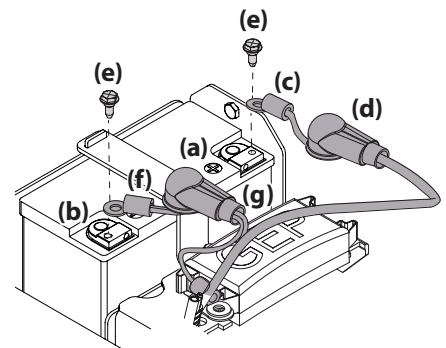

Figure 21
NOTE: The positive battery terminal is marked POS. (+) (a). The negative battery terminal is marked NEG. (-) (b). See Figure 21.
2. Slide the red boot (d) from the positive battery terminal (a) and attach the red cable (c), with the vertical mount bolt (e). See Figure 21.
3. Position the red boot (d) over the positive battery terminal (a) to insulate it and help protect it from corrosion. See Figure 21.
4. Slide the black boot (g) from the negative battery terminal (b) and attach the black cable (f) to the negative battery terminal (b) with the vertical mount bolt (e). See Figure 21.
5. Position the black boot (g) over the negative battery terminal (b) to insulate it and help protect it from corrosion. See Figure 21.